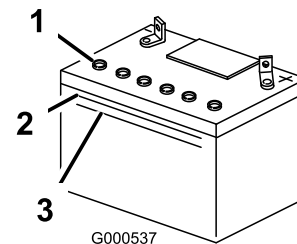

Figure 43
1. Look at the side of the battery. The electrolyte must be up to the **upper** line (Figure 43). Do not allow the electrolyte to fall below the Lower line (Figure 43).
3. Remove the vent caps from the battery (Figure 43).
4. Slowly pour distilled water into each battery cell until the electrolyte level is up to the upper line (Figure 43) on the battery case.
5. Wait 5 to 10 minutes after filling the battery cells. Add distilled water, if necessary, until the electrolyte level is up to the upper line (Figure 43) on the battery case.